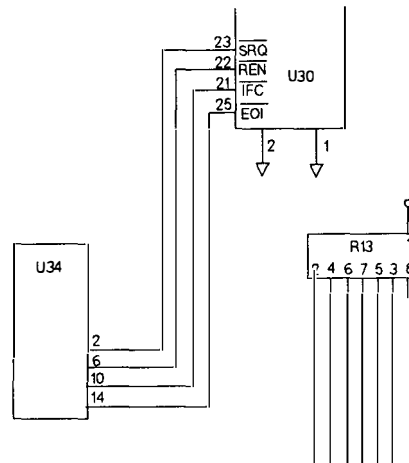

Figure B-8. 08116-66533: Deletion of W3
6. Modify the schematic Figure 10.7-4 as shown in Figure B-8.